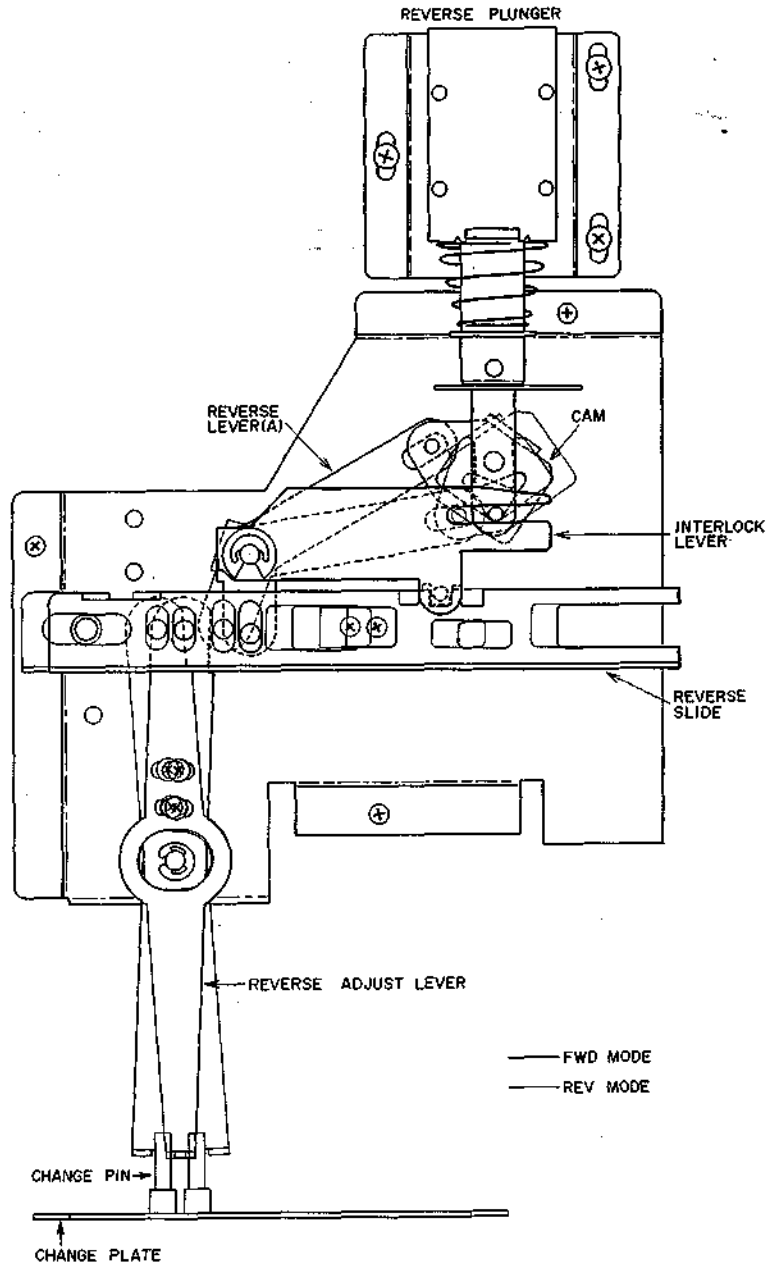

Fig. 4
1. Figures 4 and 5 indicate the position of each lever, etc. at FWD mode and REV Mode. The red lines show the changes positions when the Mode is switches to REV. The change from FWD to REV, or vice versa, is accomplished by depressing the Direction Switch or by the instantaneous movement of the reverse plunger when the leader tape is detected by the detector tape guide. (Refer to VI. Sys Con Operation: Explanation of the Reverse Plunger)
3. In the REV Mode, the Change Plate moves to the right as shown by the red line in Fig. 4 and the situation becomes quite contrary to that in the FWD Mode. The Take-up Idler(R) is separated from the reel table(R) and Take-up Idler(L) goes in contact with the reel table(L) so that the tape is taken-up in the REV direction.
At the same time, Pin Pressure Plate(A) and (B) shift as shown by the red lines in Fig. 4. This causes the Pinch Roller(R) to separate from the capstan and the Pinch Roller(L) to come in contact with the capstan so that the tape is sent in the REV direction.